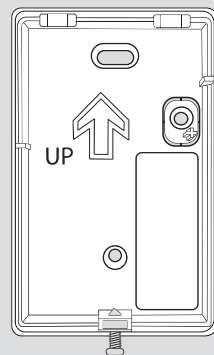

Figure 5: Mounting Holes
2. Use the provided hardware pack to mount the base to the wall. See Figure 5 for mounting hole locations.